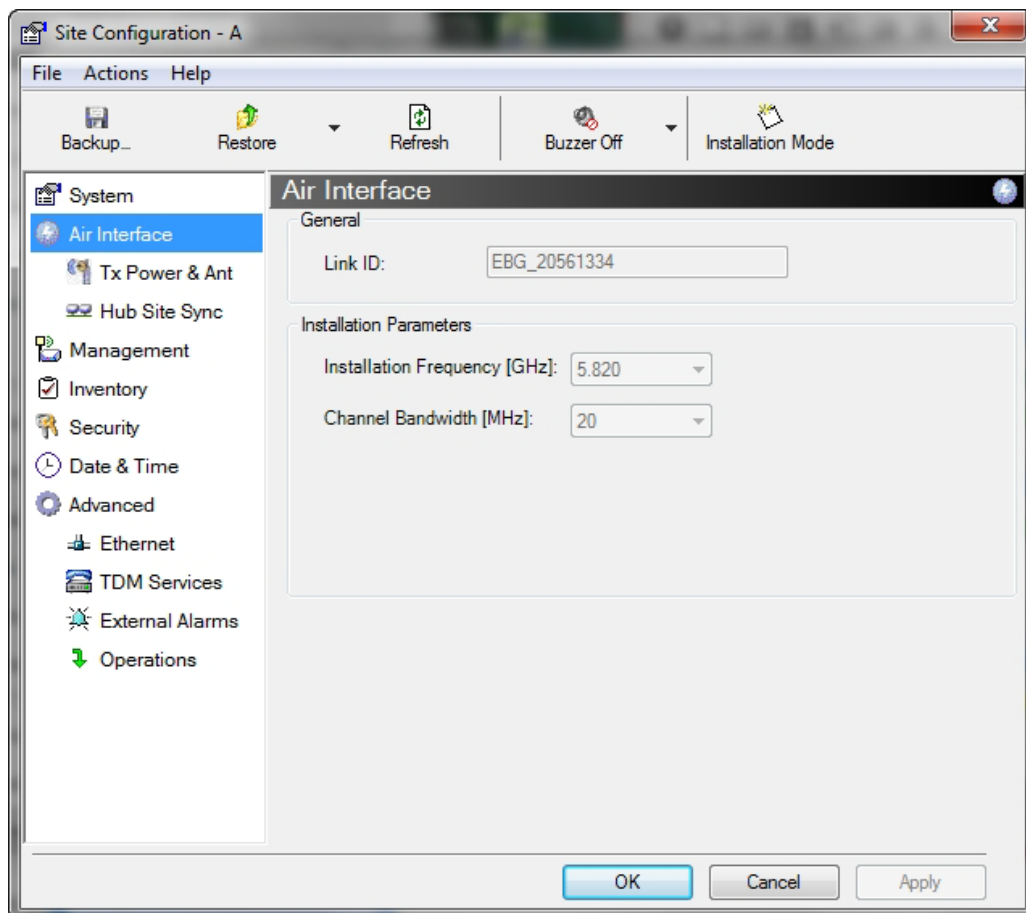

Figure 9-2: Air Interface
2. Choose Air Interface (see Figure 9-2).